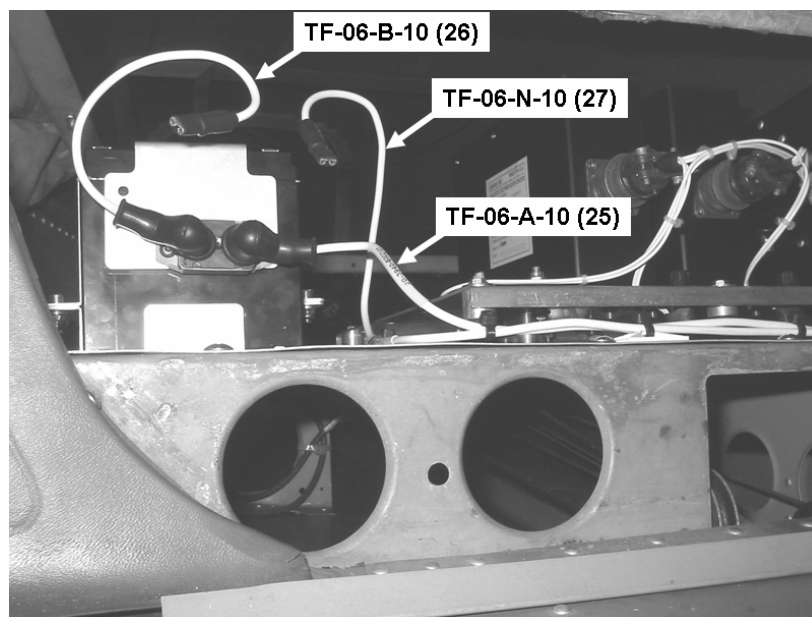

Figure 1 Backup battery (Example: version 14V)
- **CAUTION:** Washers (9) need to be positioned underneath the nuts (10)!
- Insert the battery (1x for version 14V (1)), (2x for version 28 V (1)) into the battery case "BOTTOM" (2) and mount the battery case "TOP" (3) onto the battery (1).
- Secure both cases with 4 screws (4), 8 washers (5) and 4 nuts (6).
- 4. Wiring backup battery to relay board (Cessna (F)172 F,G,H,I,K,L,M,N,P) or power junction box (Cessna 172 R,S) (see figure 1)
- ◆ **Note:** The cable TF-06-A-10 (25) is fitted with an M5 ring terminal on one side and an M4 ring terminal on the other. Connect the cable with the M5 ring terminal to the circuit breaker (7) AUX using nut (31 or 34 resp.).
- Attach a rubber cap (11) over the connection.
- Install cable TF-06-A-10 (25), TAE recommends working from the backup battery towards the relay board or junction box.
- Fasten cable with cable strap and use abrasion protection (21) at feed positions.
- Connect cable TF-06-B-10 (26) to the circuit breaker "CB Backup" (7) "BAT" using nut (31 or 34 resp) and attach a rubber cap (11).
- Connect cable TF-06-N-10 (27) to the ground connection of the main battery. Refer to AMM-20-02
- **CAUTION:** Do not connect cables (26) and (27) to the battery!
- Use an Elastomer tube (20) for the battery connections.